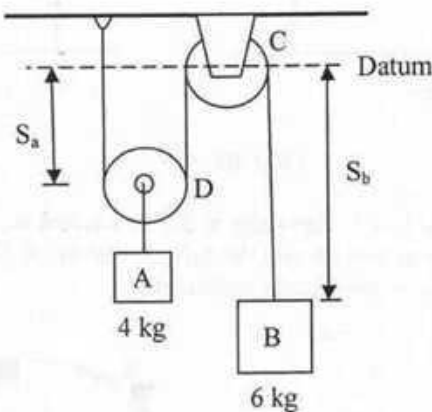

FIGURE 9
10. Blocks A and B, as shown in FIGURE 9, have a mass of 4 kg and 6 kg, respectively. If the system is released from the rest, determine the velocity of block B in 7 s. Neglect the mass of pulleys and cord. (10)